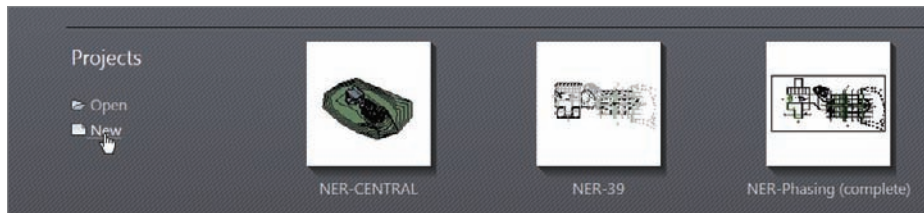

FIGURE 23.1 Clicking New on the Projects menu
2. In the Projects menu, click New, as shown in Figure 23.1.